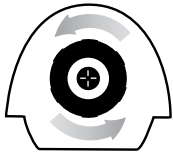
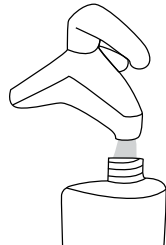
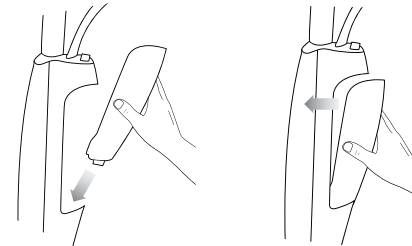

Figure 2
Figure 3
Figure 4
3. To adjust the height of Telescopic Pole, press and hold Extension Lock downward (Figure 3). While holding Extension Lock down, move Telescopic Pole until it is adjusted to the desired height. Release Extension Lock, then move Telescopic Pole again until it “clicks” securely into place (Figure 4).
4. To remove, use your foot to press down on Microfiber Pad Release Tab (Figure 2) while simultaneously pulling the unit up and away from Microfiber Pad (Figure 3).
2. Remove Water Tank Cap by unscrewing it in a counter-clockwise direction (Figure 2). Fill Water Tank with room temperature water, up to 12oz. (354ml) (Figure 3), and replace Water Tank Cap.
3. Replace Water Tank by inserting Water Tank Cap inside the cavity of Mop Body, then push Water Tank forward until locked into place (Figure 4).